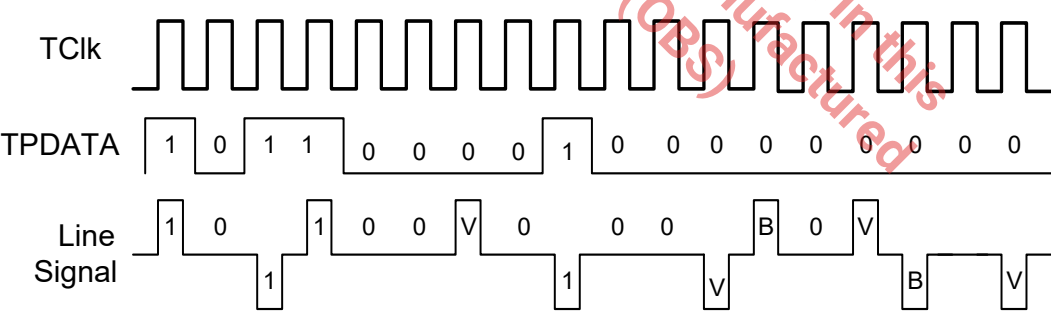

Figure 17: B3ZS Encoding Format
An example of B3ZS encoding is shown in Figure 17. If the encoder detects an occurrence of three consecutive zeros in the data stream, it is replaced with either B0V or 00V, where ‘B’ refers to Bipolar pulse that is compliant with the alternating polarity requirement of the AMI (Alternate Mark Inversion) line code and ‘V’ refers to a Bipolar Violation (for example, a bipolar pulse that violates the AMI line code). The substitution of B0V or 00V is made so that an odd number of bipolar pulses exist between any two consecutive violation (V) pulses. This avoids the introduction of a DC component into the line signal.